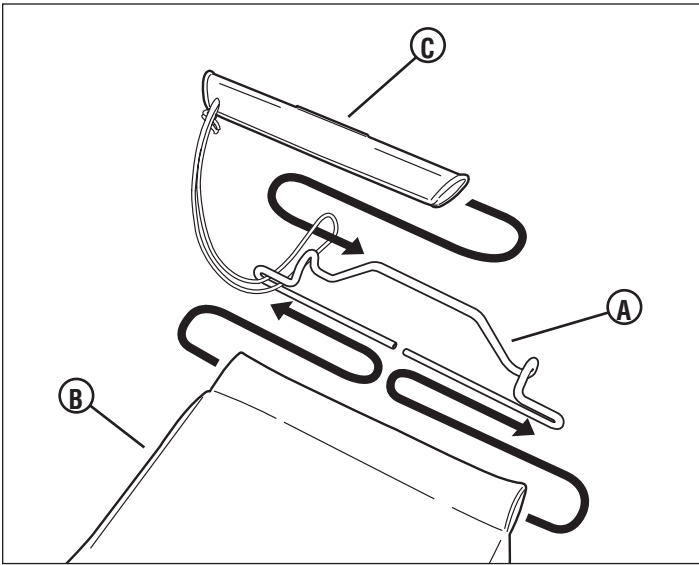
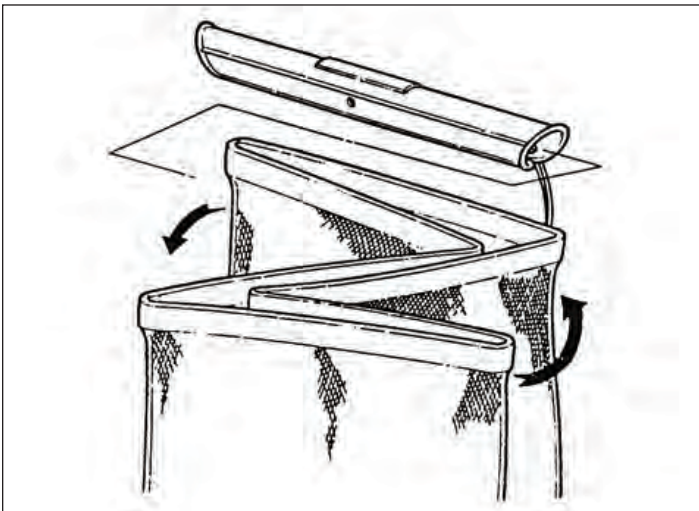

Figure 15
Figure 16
- Install the top wire (A, Figure 15) to the grass bag (B).
- Tie the slider (C) to the top wire.
- Fold the bag opening into a “Z” and install the slider (Figure 16).